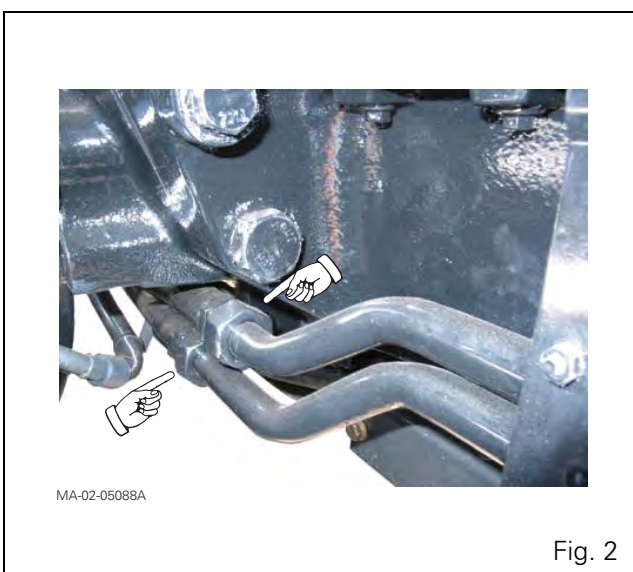

Fig. 2
- the lubrication hoses (running to and from the cooler) (Fig. 2).